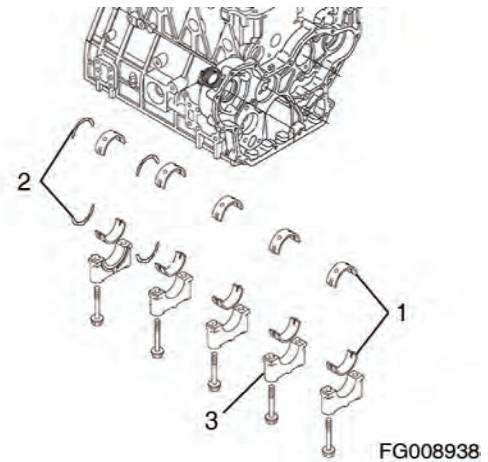

Figure 184
4. Remove the main bearing caps (3, Figure 184). Be sure to note the markings on the main bearing caps, or mark them yourself, so they can be reinstalled in the same order as they were removed. Do not remove the bearing inserts at this time.
7. Remove the bearing inserts (1, Figure 184) and thrust bearings (2, Figure 184).